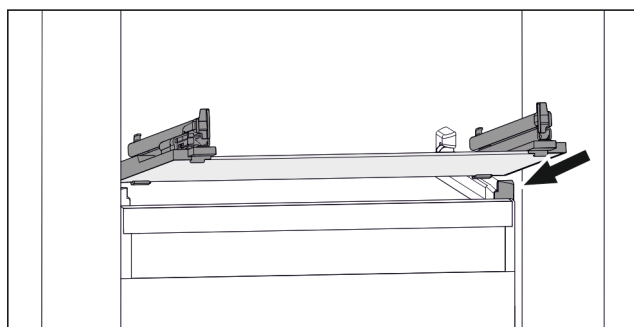

Fig. 83 Example illustration of glass shelf
- Position glass shelf at an angle behind the stoppers. (see Fig. 83)